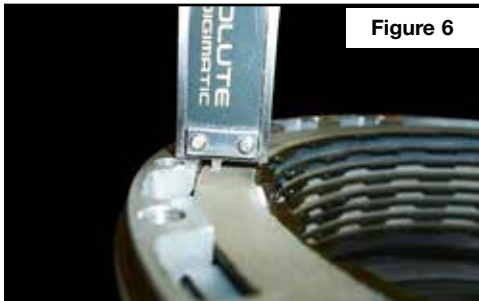

Figure 6
- d. With the clutch pack installed, measure the clearance from the top friction to the end face of the housing. Measure in multiple locations to ensure an accurate reading. Clearance should be between .050" and .060" (Figure 6). Adjust clearance by substituting different thickness steel plates.